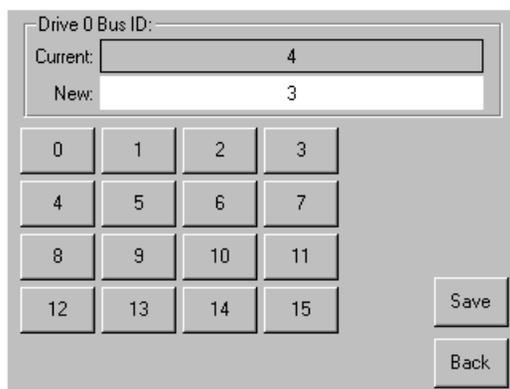

Figure 3-2: Drive 0 bus ID screen
- a. Select the box next to the text “Drive 0 Bus ID:.” The Drive 0 Bus ID screen appears on the display (see Figure 3-2). This screen displays the current Drive 0 Bus ID along with the new value that you request.